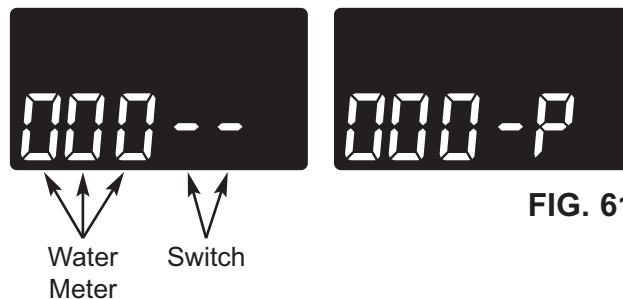

FIG. 61
3. The letter "P" and a dash (or dashes) indicate POSITION switch operation (See Figure 61). If the letter appears, the switch is closed. If the dash shows, the switch is open.